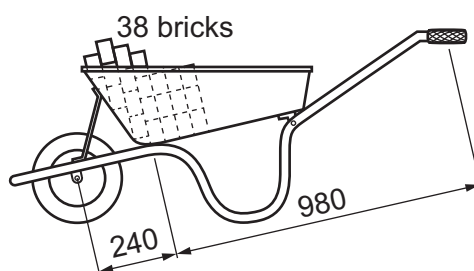

Fig. 10.3
- (v) Fig. 10.3 shows wheelbarrow **A** loaded with 38 bricks, each brick weighing 2.1 kg. Calculate the effort required to lift the loaded wheelbarrow.